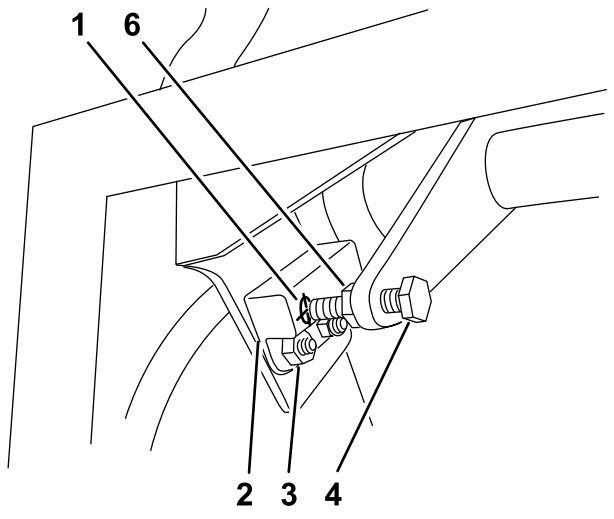

Figure 57
1. Ensure that the bolt attached to the motion-control lever aligns with the proximity switch target (Figure 57).
2. If needed, loosen the bolts and adjust the proximity switch until the target aligns with the bolt attached to the motion-control lever (Figure 57).
3. Check the distance of the bolt to the proximity switch; it needs to be between 0.51 to 1.02 mm (0.02 to 0.04 inches) as shown in Figure 57.
5. Tighten the jam nut after adjusting the bolt (Figure 57).